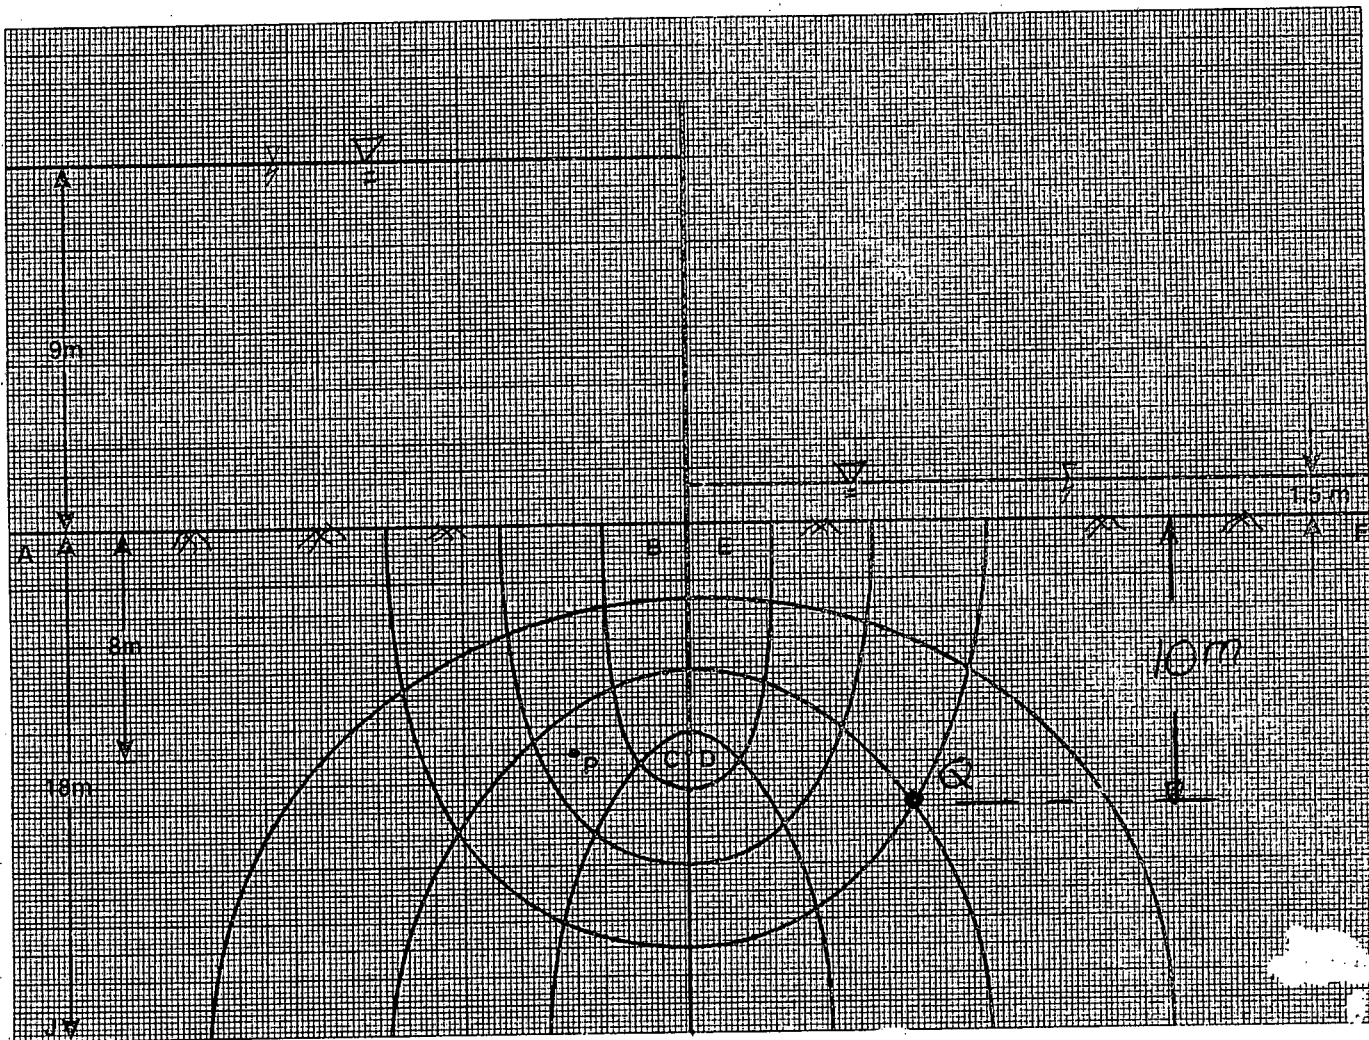

Fig. 1
1. Calculate vertical deflection at joint "b" of the truss shown in Fig. 1. Given: $A = 10 \text{ in}^2$ for all members and $E = 30,000 \text{ ksi}$.